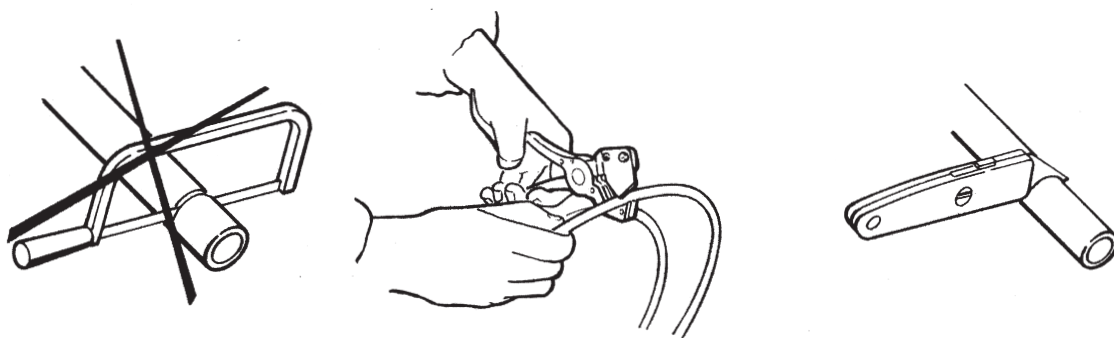

fig.14
- Use a sharp razor knife to cut nylon hoses or pipe cutters for copper hoses (fig.14).